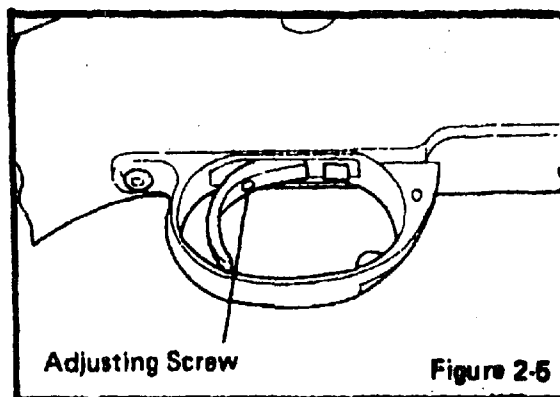

Figure 2-5
c. The operator may increase the trigger pull force up to a maximum force of 8 lbs. with the 1/16" Key, Socket Head Screw provided in the deployment kit. To increase the trigger pull, turn the adjusting screw clockwise (see Figure 2-5). Turning the adjusting screw counterclockwise will decrease the trigger pull to a minimum of 2 lbs.